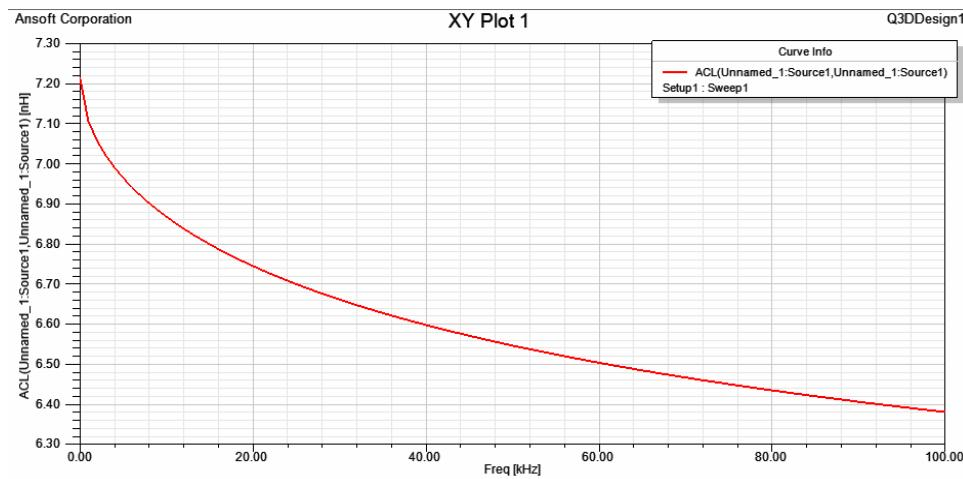
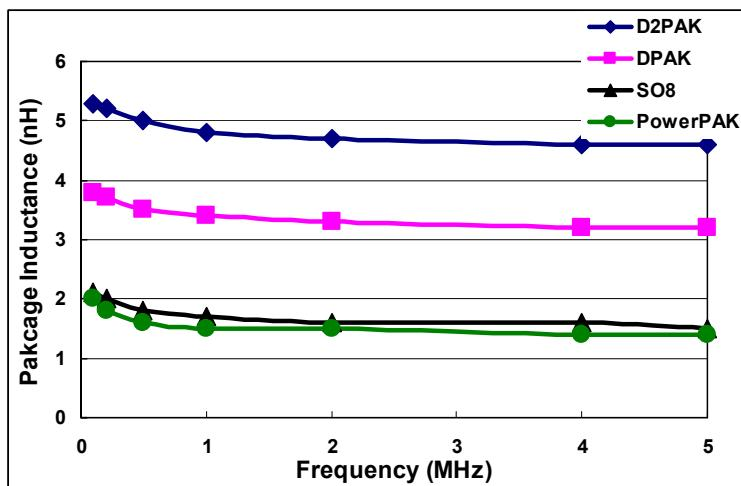

Figure 20 — TO220-3 Package Inductance vs. Switching Frequency Simulate by Ansoft
Figure 21 — Surface Mount Packages Inductance vs. Frequency
For L_s , figure 20 shows the typical L_s value of a traditional TO220-3 package MOSFET simulated by Ansoft. For some SMD packages, such like SO8 and TO252, the L_s is a bit smaller, which is in figure 21. The trace on the PCB layout will also bring in some leakage inductance, which is $\sim 1nH/mm$.
Derived from (17) and (18), the secondary CCM turn-off di/dt for this case is around $60A/\mu s \sim 150A/\mu s$ due to the different input. With a TO220 package SR FET ($\sim 6.5nH$ package inductance at 60kHz from figure 20), the voltage drop on package inductance V_{LK} will be 400mV~900mV according to (16). This voltage drop is much larger compared with the voltage drop on $r_{ds(ON)}$ and dominate the V_{DS} in (15) trigger -30mV turn-off threshold of the IC affirmatively.